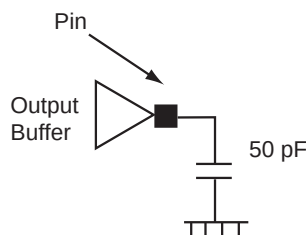

Figure 2-8 • 5 V PCI Output Loading
4. This parameter is to be interpreted as the cumulative edge rate across the specified range, rather than the instantaneous rate at any point within the transition range. The specified load is optional; i.e., the designer may elect to meet this parameter with an unloaded output per revision 2.0 of the PCI Local Bus Specification (Figure 2-8). However, adherence to both the maximum and minimum parameters is now required (the maximum is no longer simply a guideline). Since adherence to the maximum slew rate was not required prior to revision 2.1 of the specification, there may be components in the market that have faster edge rates; therefore, motherboard designers must bear in mind that rise and fall times faster than this specification could occur and should ensure that signal integrity modeling accounts for this. Rise slew rate does not apply to open drain outputs.